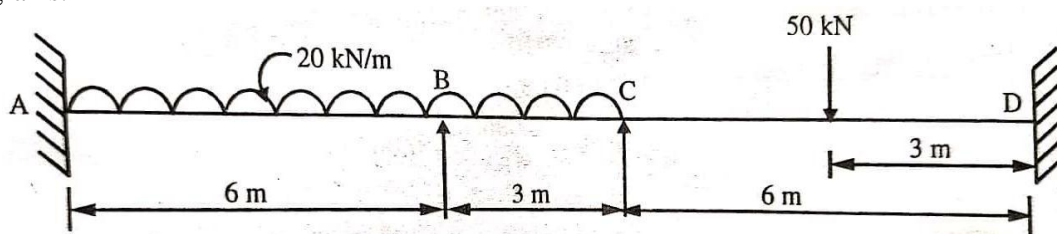

Fig. 2
6. Analyse the continuous beam loaded as shown in Fig. 2, by the slope-deflection method. Support B sinks by 8mm. Take $E = 200$ GPa, $I = 9 \times 10^8 \text{ mm}^4$. Draw the bending moment and shear force diagrams. 14M